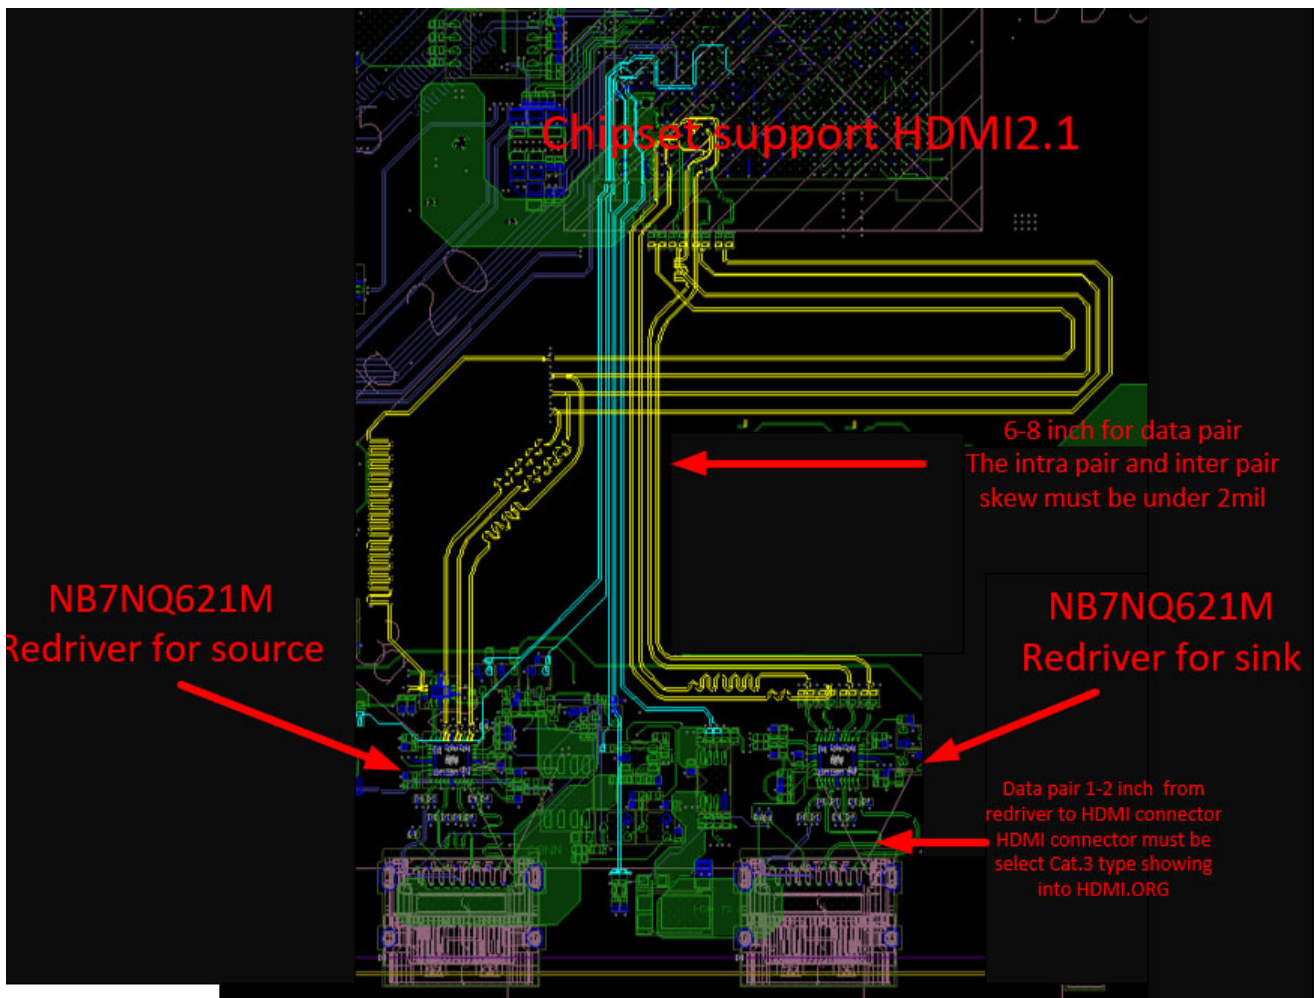

Figure 5. Example of Layout Routing
- For passing HFR 2-1, HFR 2-2 and HFR 2-3 Sink HDMI 2.1 Intrapair skew and Inter pair skew, the data path of layout between the intra pair and inter pair skew must under 2 mil. Also, the component pad must be etched at reference plan. An example Layout routing is shown in Figure 5 below.